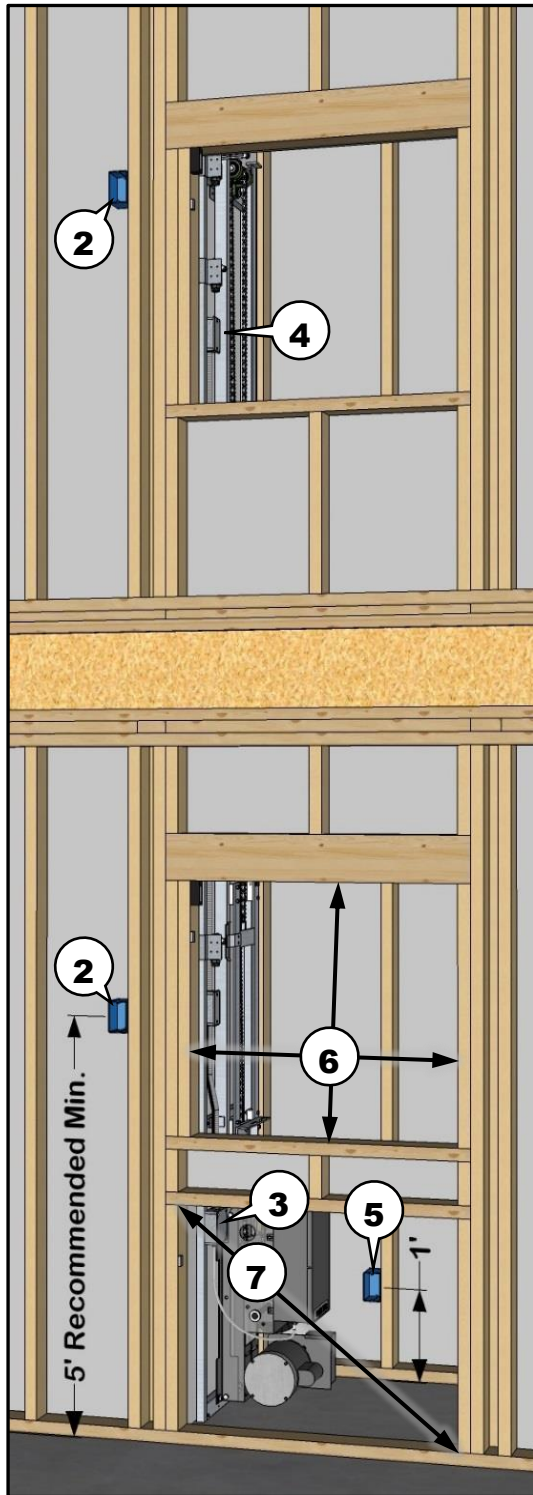

Figure 15
- 2 Place push button boxes per owner's instruction, making sure there is enough wire to reach the box. (see Figure 15)
- 3 Rough-in wire for push buttons from junction box to bottom floor push button box. (see Figure 15)
- 4 Rough-in wire for push buttons from top floor junction box to top floor push button box. (see Figure 15)
- 5 Install power supply junction box, on a dedicated 20A circuit, 12 inches (0.3 m) above floor on wall adjacent to mounting wall. (see Figure 15)
- 7 Removable access panel or door for servicing motor, brake, clutch, or car adjustment. (see Figure 15)